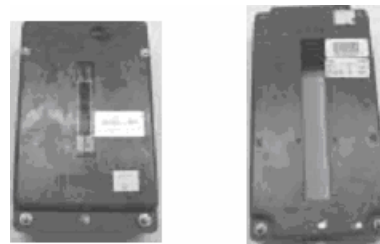

Figure 21 – Left – DS-206 with spacer, Right – DS-632 sensor
See Figure 21 for typical sensors.
On type DS-206 / DSL-206 two (2) spacers 794A965H01 are required for each sensor. See Figure 21.